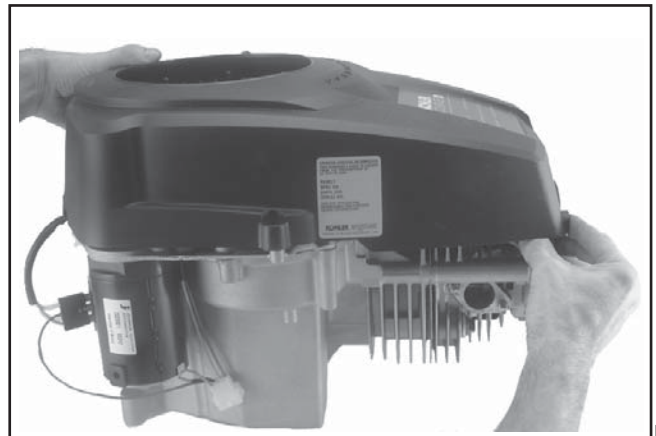

Figure 10-75. Installing Blower Housing.
1. Position the blower housing on the engine and route the spark plug lead through the underside slot. See Figure 10-75.